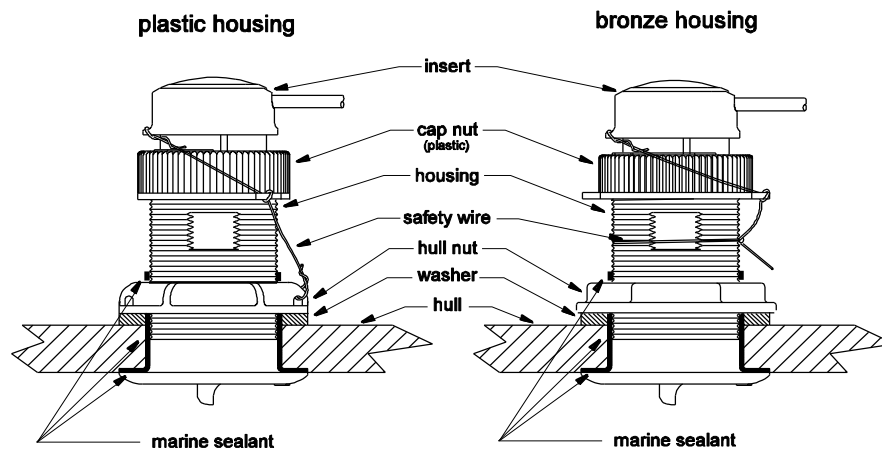

Figure 3 – Bedding and Installation
Apply a 2 mm (1/16") thick layer of marine sealant around the lip of the housing that contacts the hull and up the sidewall of the housing. The sealant *must* extend 6 mm (1/4") higher than the combined thickness of the hull, washer(s), and hull nut (see Figure 3). This will ensure there is sealant in the threads to seal the hull and hold the hull nut securely in place.
- From outside the hull, push the housing into the mounting hole using a twisting motion to squeeze out excess sealant (see Figure 3). *Align the arrow on the lip of housing to point forward toward the bow.* If the DST110 is not installed on the centerline, angle the housing slightly toward the centerline to align it with the water flow.